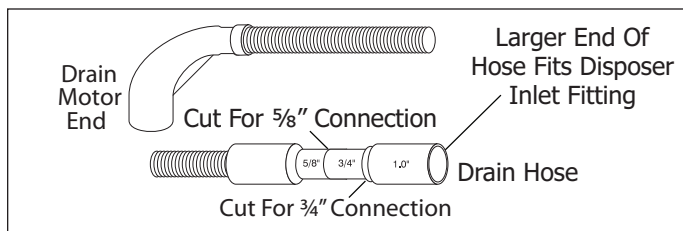
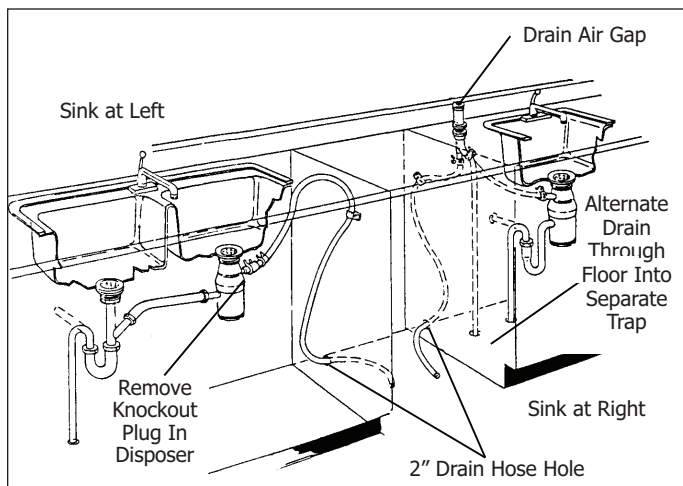

Figure 2-7.
Figure 2-8.
- If you connect to a disposer, the large end of drain hose will fit. Figure 2-7. The knock out plug must be removed from inside disposer inlet before making the final fit to drain hose. (See Figure 2-8).
- Before cutting drain hose access, check both sides of selected area to avoid interference. Cut a 2" diameter hole as shown in Figure 2-8.